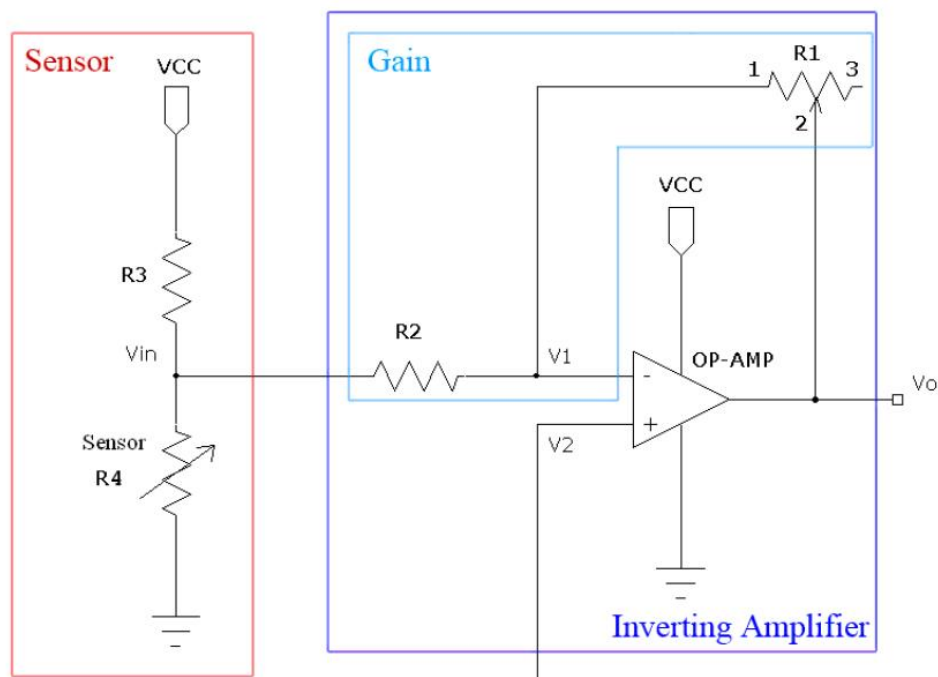

Figure 5.3: This highlights the two adjustable sections, reference voltage and gain, of the operational amplifier circuit
Find the reference voltage and gain needed to produce the correct output. Start by finding a general equation for V_o . Figure 5.3 shows the schematic for the inverting amplifier connected to the sensor. The solution is shown below; be sure to understand it and substitute the particular sensor endpoints in order to calculate an appropriate V_2 and gain.
1. Write the node voltage equation for V_1 , refer to Figure 5.3.